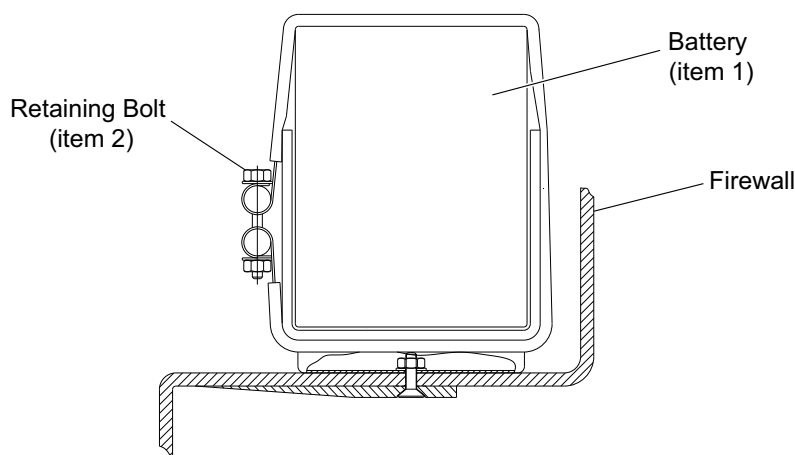

Figure 3. Battery installation (looking inboard)
9. Install the new battery (item 1) using the existing strap with the new retaining bolt (item 2). Refer to Figure 3.